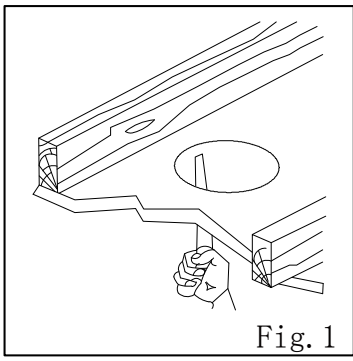

Fig. 1
1. Cut a diameter  $\varnothing 90\sim 95$ mm hole in the ceiling. (Fig.1)